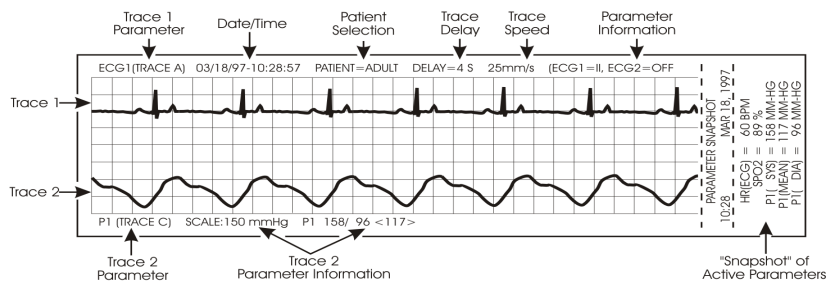

Figure 5-2. Sample Strip Chart
5.3.1 Strip Chart Printouts. (See Figure 5-2) The Strip Chart may be configured to contain one or two parameter waveforms and also contains the numerical value of every active parameter as well as a "Parameter Snapshot" of the current values of every active parameter at the end of the printout strip.